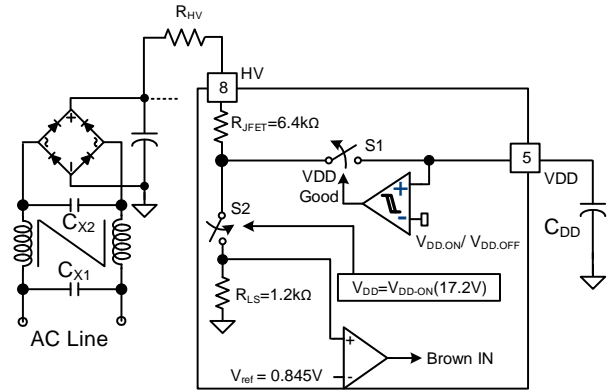
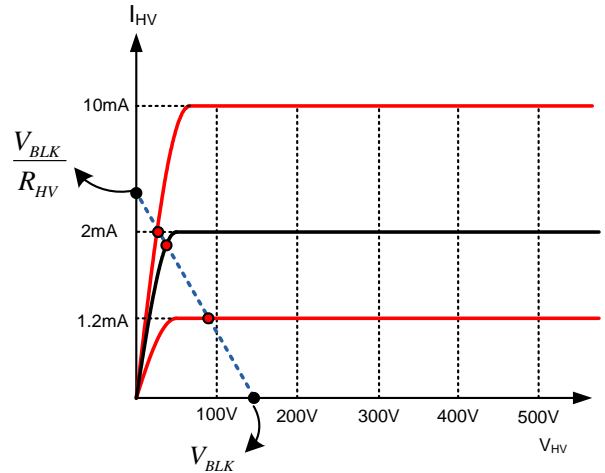

Figure 31 HV Startup Circuit
Figure 32 Characteristics of HV pin
Figure 31 shows the high-voltage (HV) startup circuit. An Internal JFET provides a high voltage current source, whose characteristics are shown in Figure 32. To improve reliability and surge immunity, it is typical to use a R_{HV} resistor between the HV pin and the bulk capacitor voltage. The actual current flowing into the HV pin at a given bulk capacitor voltage and startup resistor value is determined by the intersection point of characteristics I-V line and the load line as shown in Figure 32.
During startup, the internal startup circuit is enabled and the bulk capacitor voltage supplies the current, I_{HV} , to charge the hold-up capacitor, C_{VDD} , through R_{HV} . When the V_{DD} voltage reaches V_{DD-ON} , the sampling circuit shown in Figure 31 is turned on for t_{HV-det} (100 μ s) to sample the bulk capacitor voltage. Voltage across R_{LS} is compared with reference which generates a signal to start switching. If brown-in condition is not detected within this time, switching does not start. Equation 8 can be used to program the brown-in of the system. If line voltage is lower than the programmed brown-in voltage, FAN604H goes into auto-restart mode.